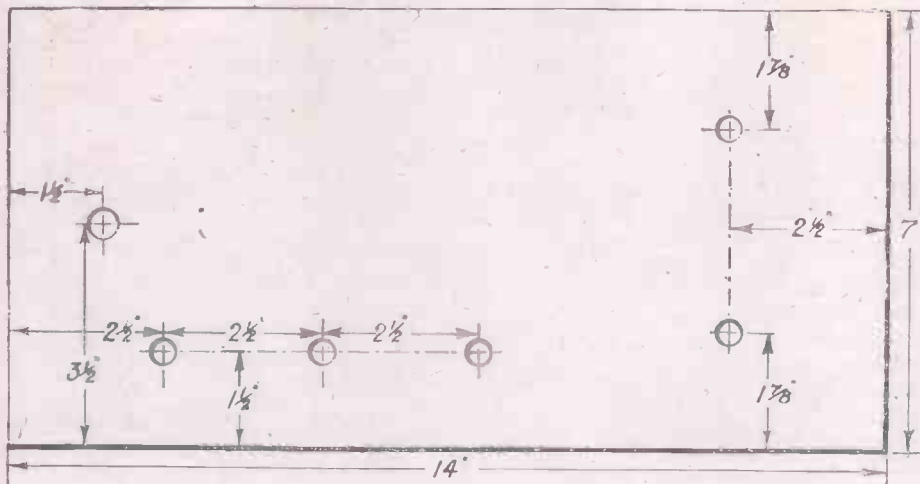

Fig. 3.—Drilling Layout of Panel.
In the following description of the construction of the set, all the components bear a designating number which may be found by reference to the wiring diagram Fig. 2. The panel (15) is illustrated in Fig. 3, from which the dimensions and positions of all the holes for fixing the various parts may be gathered. All the components are of the central-hole fixing type, and therefore no tapping of the panel is required. The mahogany has a polished surface which need not be removed or matted, as it is the result of a special polishing process.